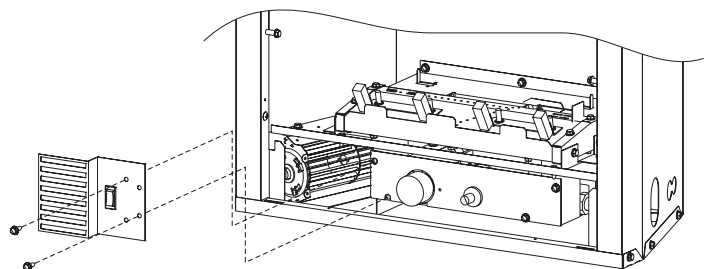

Figure 33
29. Remove 10 x 1/2" screw (if present) located on left, front of valve cover on burner assembly. Insert blower shield front adjacent to blower motor and blower shield side. Align clearance hole on blower shield front with left, front screw hole on valve cover. Attach blower shield front to valve cover with two 10 x 1/2" screw. See Figure 33.